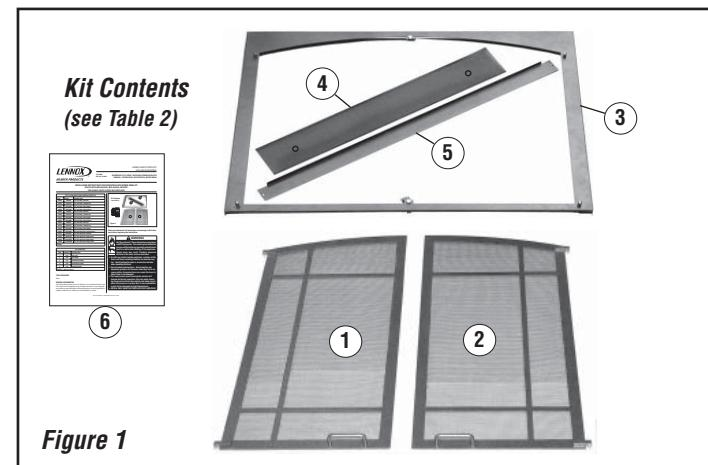

Figure 1
Table 2 - Refer to Figure 1
Step 2 - Install the Firebox Bottom Cover Panel (#5 in Figure 1) using the existing screws that were removed. The top two holes on the panel align to corresponding holes on fireplace.
Step 3 - Install the *Firebox Bottom Cover Panel* (#5 in *Figure 1*) using the existing #10 screws. The bottom two holes on the cover panel align to corresponding two holes on firebox bottom.